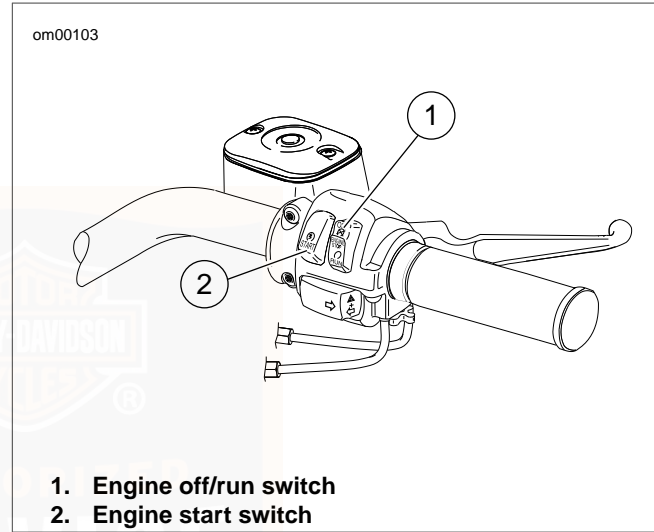

Figure 19. Right Handlebar Controls
2. See Figure 19. Turn the off/run switch to RUN position.